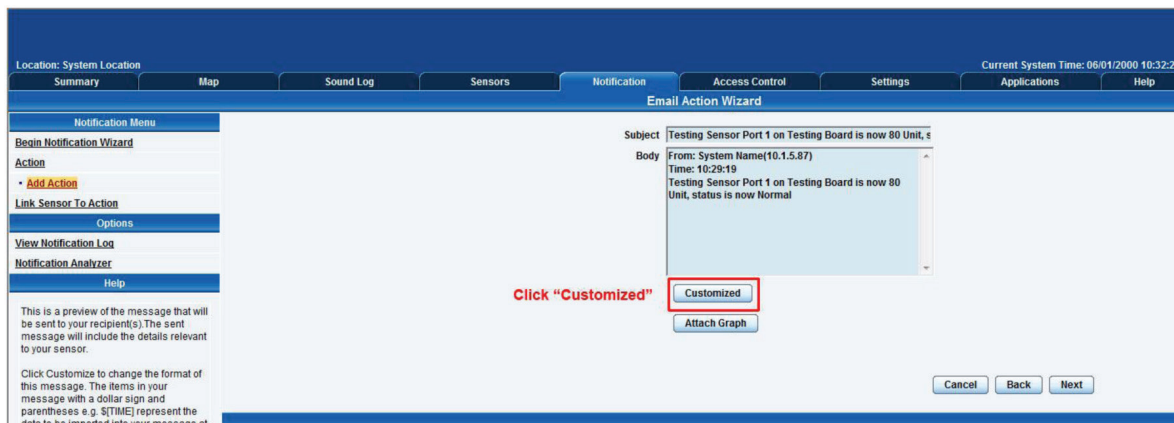

Figure 4-12. Input e-mail name and message.
2. After clicking “Next,” you will get a page where you can input the e-mail name and message. Click the “Customize” button, and the fields will re-write in a format that will allow for an automated e-mail that will display the sensor information. (See Figure 4-12.)